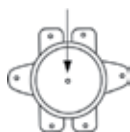

Fig. 12
- for FSM2/FSQ2 series horizontal-type water heaters: press the button, located in the center of the thermal switch, placed near the heating element (with a round shape), until it clicks, Fig.12;